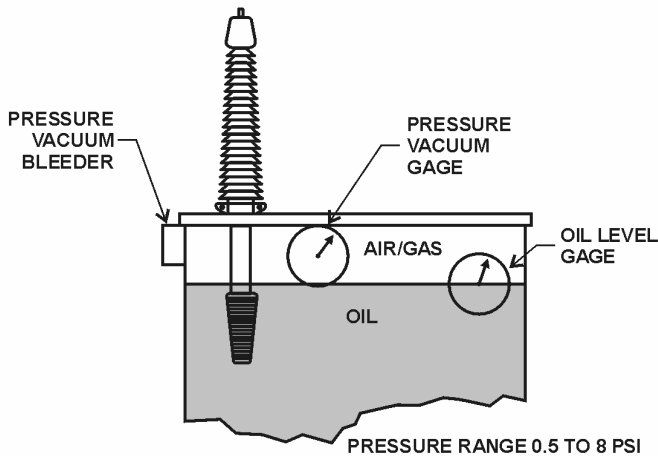

Figure 35 – Pressurized Breathing Transformer.
4.9.1.2 Sealed or Pressurized Breathing – This design is similar to the free breathing type with the addition of a pressure/vacuum bleeder valve. When the transformer was installed, pressurized dry air or nitrogen was placed on top of the oil. The bleeder valve is designed to hold pressure inside to approximately plus or minus 5 psi (figure 35). The same problems with moisture and oxygen occur as previously described. However, these problems are not as severe because “breathing” is limited by the bleeder valve. Air or nitrogen (N_2) is exhausted to the outside atmosphere when a positive pressure greater than 5 psi occurs inside the tank. This process does not add moisture and oxygen to the tank. However, when cooling, the oil contracts and, if pressure falls 5 psi below the outside atmosphere, the valve allows outside air into the tank, which pulls in moisture and oxygen.